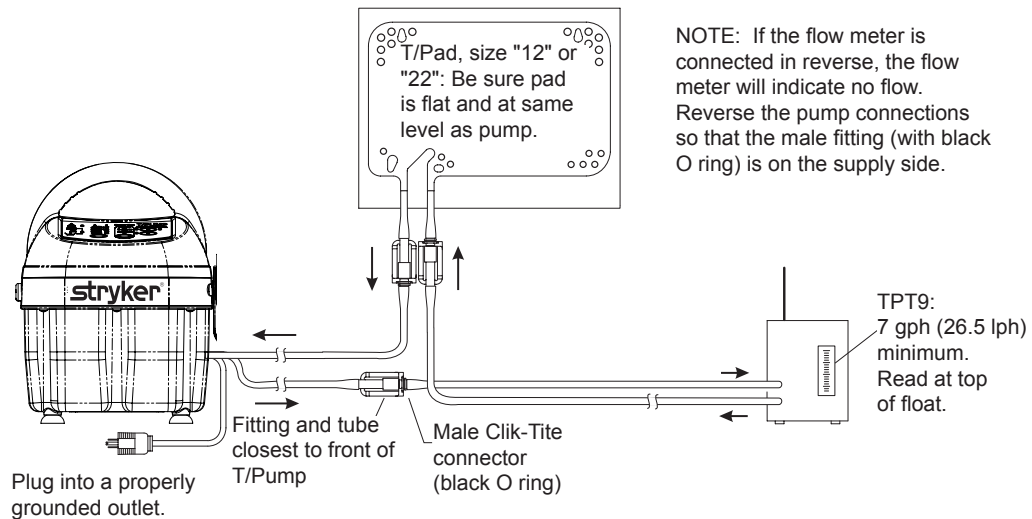

Figure 9a: Functional Check Setup (Clik-Tite)
1. Connect the T/Pump to the TPT9 and Mul•T•Pad as shown in Figure 9a, 9b. Un-kink the pad and hose. Open the hose clamps.